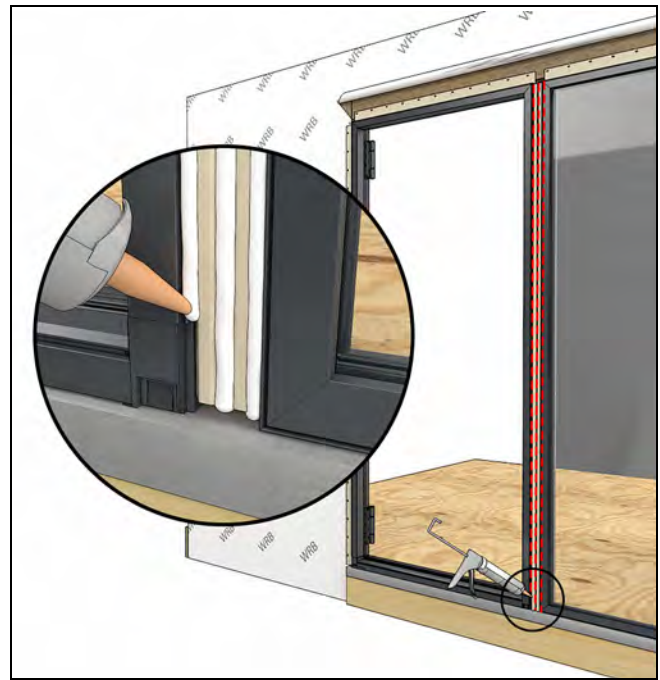

Figure 245
24. Apply three beads of sealant over the mull fillers—one on each side (between the fillers and frame) and one in the middle. See Figure 245.